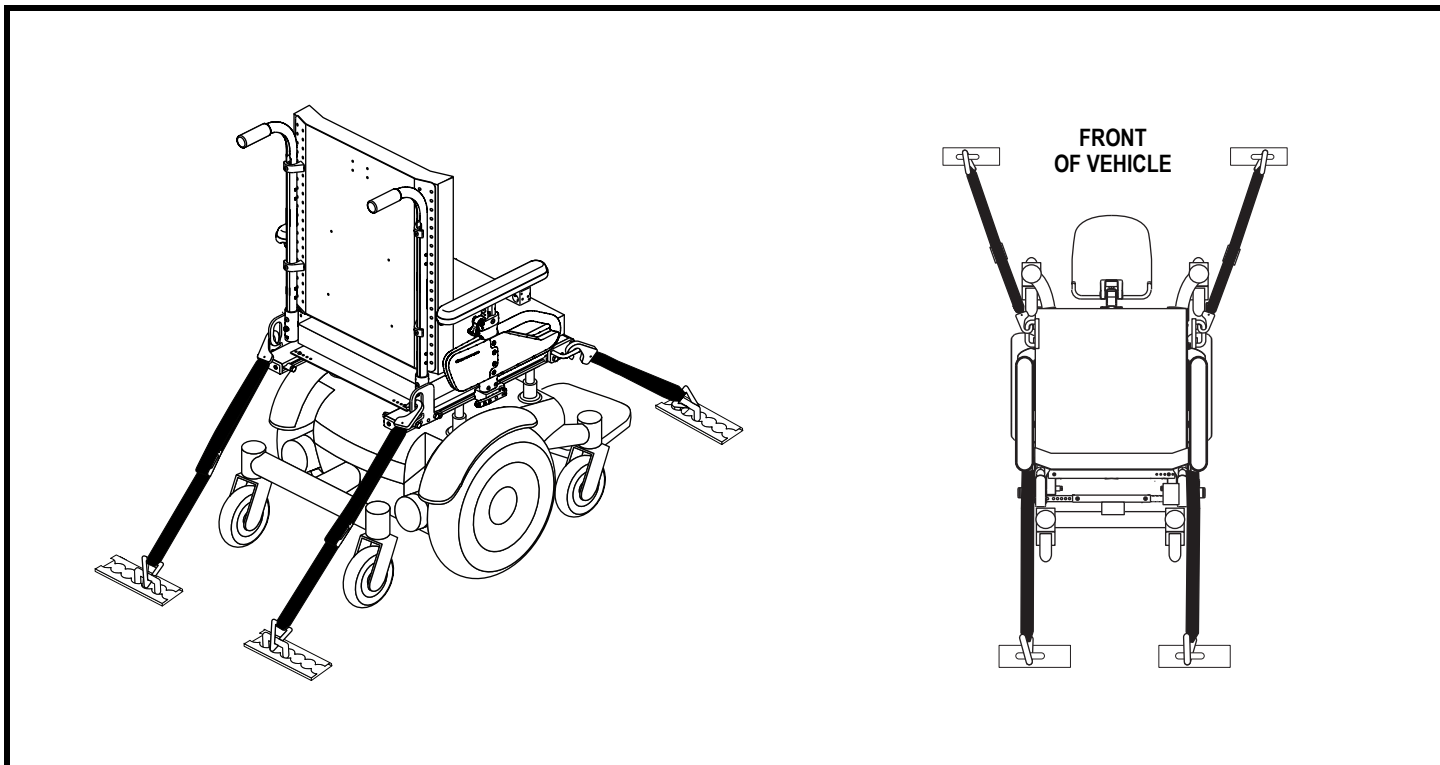

Figure 11. Unoccupied Transit System Securement Points
- Position the anchor points for the rear tie-down straps directly behind the rear securement points on the power chair. The front tie-down straps should be anchored to floor points that are spaced wider than the power chair to provide increased stability. See figure 11.